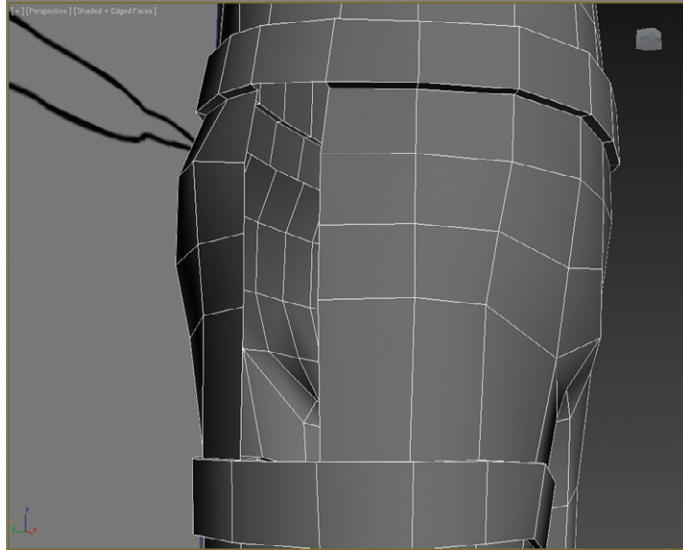

FIGURE 8.14 Select and delete the strip of polygons running from the top of the strap to the bottom of the belt.
8. Select a strip of polygons that goes from the top of the leg strap to the bottom of the belt, and delete them, as shown in Figure 8.14.